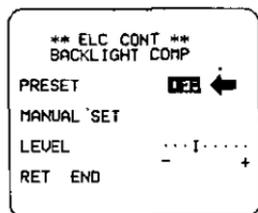

Fig. 61
- Move the cursor to the "PRESET" mode position and select the "OFF" mode by using the Left Switch (<) (9) and Right Switch (>) (8).
- The field setup menu is displayed on the monitor screen as shown in Fig. 61.
- Press the Set Switch (11) when this masking is to be canceled.
- After masking is completed, press the Set Switch(11) for more than 2 seconds and the 25 Mask Areas on the monitor screen disappears and the field setup menu shown in Fig. 61 is then displayed.
- When the video output level (picture contrast) is to be changed, move the cursor to the "LEVEL" mode position and press the Left Switch (<) (9) and Right Switch (>) (8) to adjust the exposure time of the CCD image sensor. The cursor "I" moves right (long) or left (short) corresponding to the video output level (exposure time).